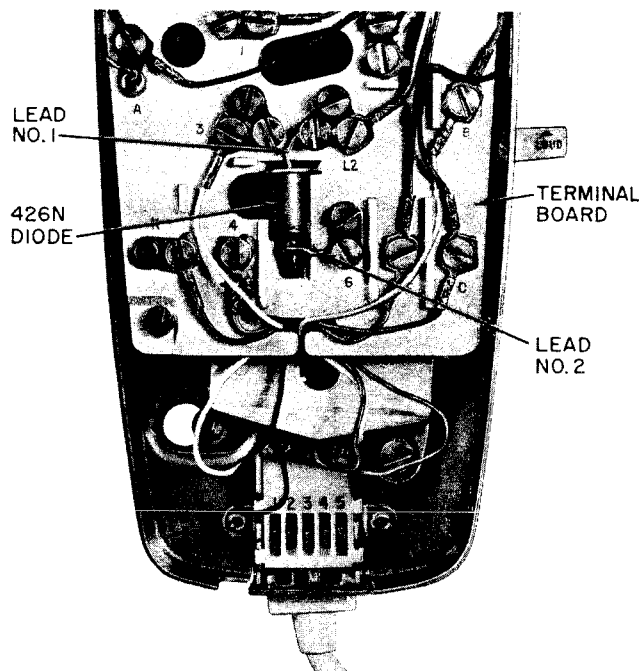

Fig. 9—426N Diode Installed
(6) A 426N diode (Fig. 9) must be installed in either the AC1 or AD1 base assembly when connecting for 4-party full selective or 8-party semiselective ringing. The two leads from the diode are designated No. 1 and No. 2. Lead No. 1 extends from the flanged (gold) base of the diode; lead No. 2 extends from
the housing tip of the diode. Place the diode in the opening provided in the terminal board (Fig. 9). Dress the leads to the appropriate terminal board terminals, refer to Section 502-321-400 for connections.